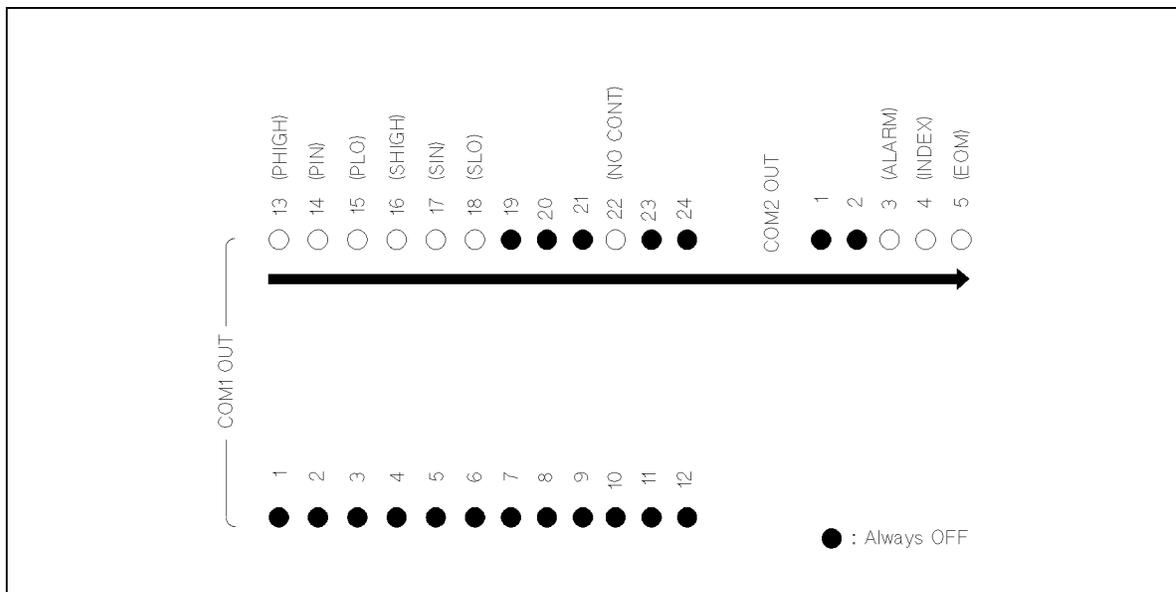

Figure 9-11. Handler interface Output Order
13. Confirm that the LEDs on the Handler Interface Tester light in the order shown in Figure 9-11, in accordance with the 4263B display.